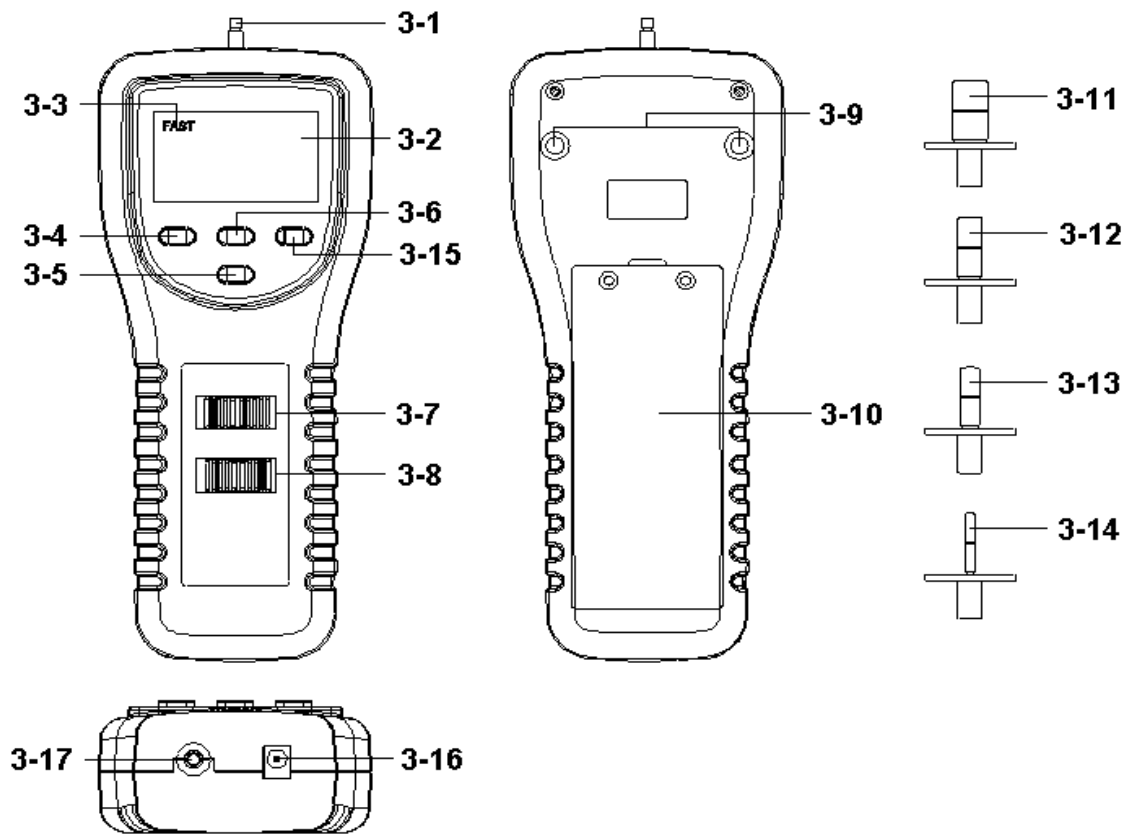

Fig. 1
- 1) Slide the " Power Off/On/Peak Hold Switch " (3-8, Fig. 1) to the " On " position.
- 2) Determine display unit of g, oz or Newton by selecting " Kg/Newton/LB Unit Switch " (3-7, Fig. 1).
- 3) Connect " Sensing Head " (3-1, Fig. 1) with proper " Adapter " (3-11 to 3-14, Fig. 1) and the " Measuring Object " should be in straight line. Don't give any force in standby mode..
- 4) " Zero Adjust " by pushing " Zero Button " (3-6, Fig. 1) before every measurement.
** During the measurement, if intend to change the display direction, just push the " Reverse Button " (3-5, Fig. 1) once.*
- * There are two kind sampling time of display, FAST and SLOW. Push the " FAST/SLOW Button " once (3-4, Fig. 1), if the upper left corner of LCD show " FAST " (Fast Indicator, 3-3, Fig. 1), then the display reading is under the operation of fast sampling time.
- * If the upper left corner of LCD not show the " Fast Indicator " (3-3, Fig. 1), the display reading is under the slow sampling time.
The meter can measure the peak value of force both of tension & compression operation. The operation procedures of Peak Hold Measurement are same as above " 4-2 Normal Measurement " but should slide the " Power Off/On/Peak Hold Switch " (3-8, Fig. 1) to the " PEAK H. " position.
Slide the " Power Off/On/Peak Hold Switch " (3-8, Fig. 1) to the " On " position will cancel the peak hold function.
During the measurement, press and hold (> 2 seconds) the "  Button " (3-15, Fig. 1) until LCD Back Light is ON, then it will be off after a period time. several seconds then off automatically
- 2) Take out the battery cover (3-10, Fig. 1) away from the instrument and remove the batteries.
The instrument features an RS232 output via 3.5 mm Terminal (3-17, Fig. 1).
Fruit hardness tester is a precise instrument, best results are obtained when the gauge is fitted to a test stand. Mounting holes (3-9, Fig. 1) are provided on the back of the gauge for easy stand mounting.